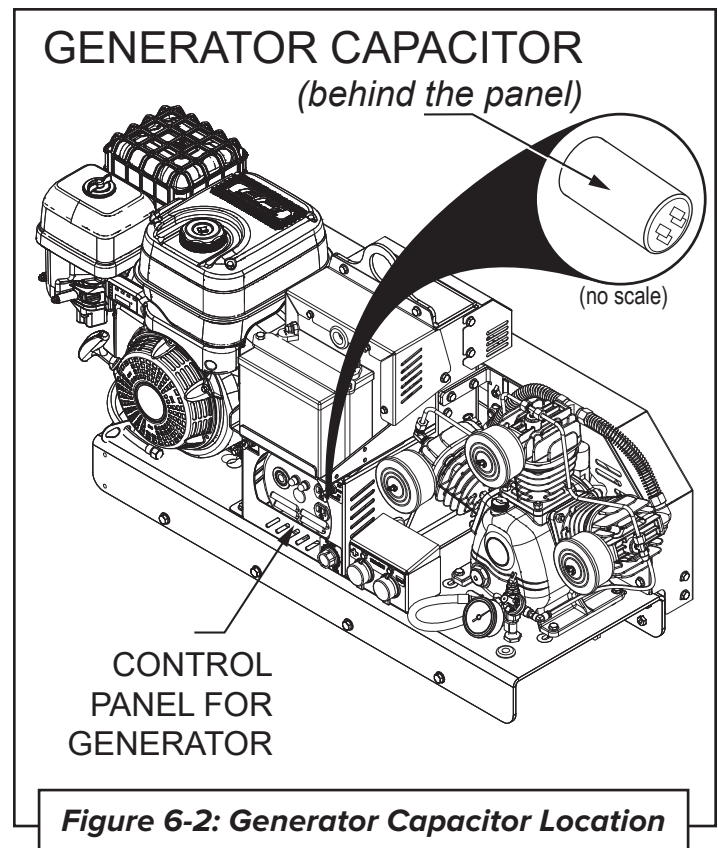

Figure 6-2: Generator Capacitor Location
2. The generator's capacitor is a small electrical component in the shape of a cylinder located behind the front control panel. (See Figure 6-2) The generator panel cover must be removed to access this.
4. The capacitor used for this machine is a small cylinder type with 2 or 4 connectors at one end. (See inset shown in Figure 6-2.)